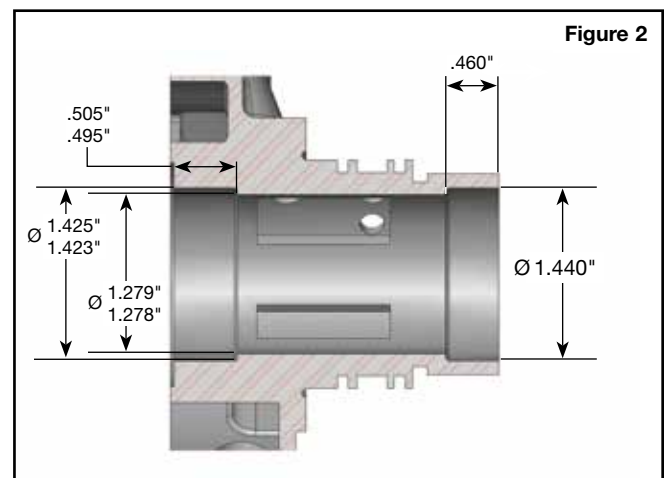

Figure 2
- Machine pump cover per dimensions (**Figure 2**).